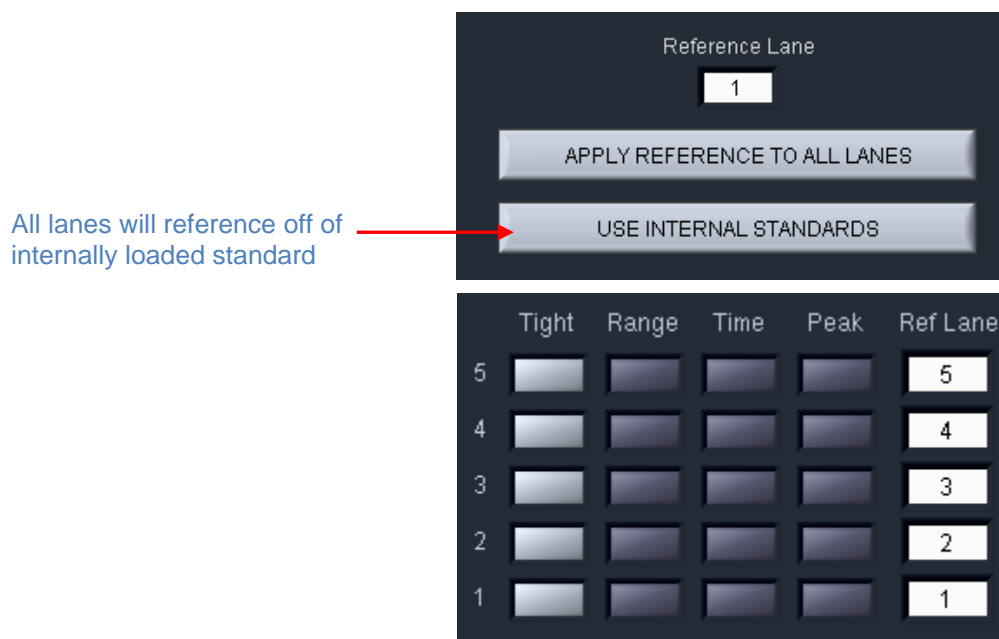

Figure 7.2. The correct configuration for a protocol using internal standards.
3. **Figure 7.2** shows the correct assignation of marker lanes for internal standard runs.